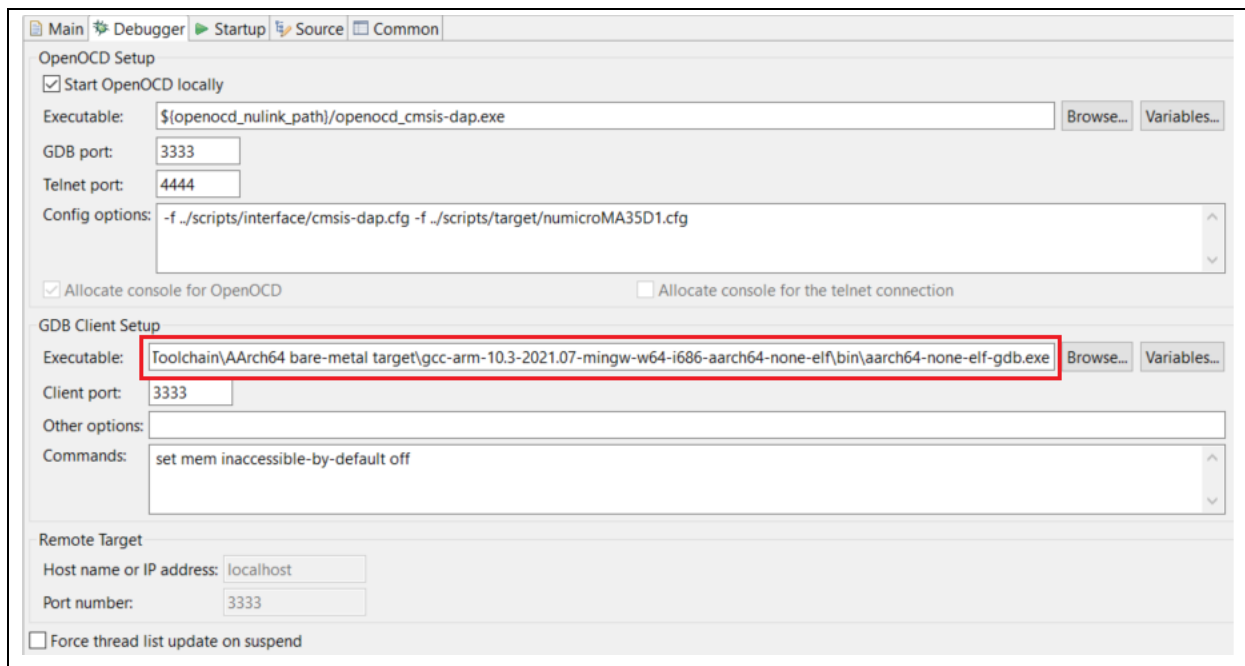

Figure 4-40 Locating the AARCH64 GDB Executable
4. Locate the GDB executable in the debug configuration (referring to Figure 4-40).